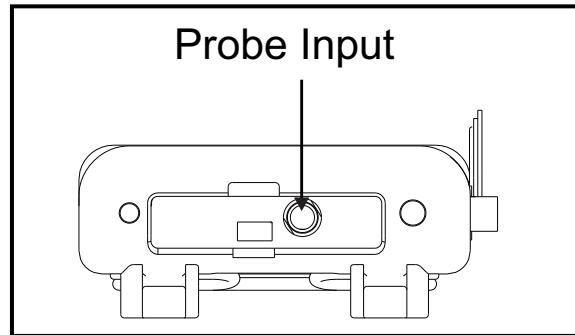

Figure 12: Connection Locations
3. Connect the other end of the probe cable to the top of the unit by aligning the red dot on the cable connector at the 12 o'clock position. See *Figure 12* for the connector location.